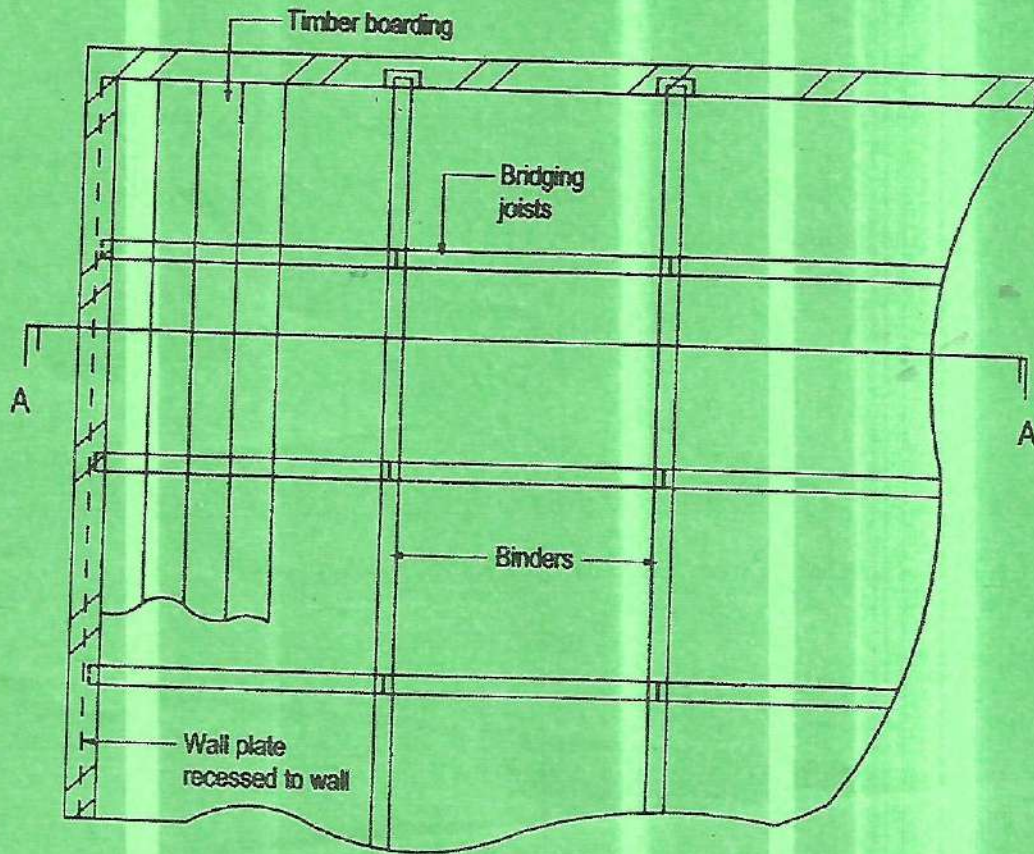

FIGURE 3
- (b) Figure 3 shows a plan of a double joist timber upper floor. To a scale of 1:10 draw section A-A using the data provided.